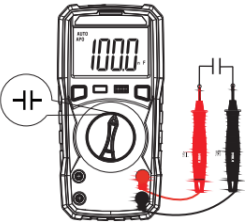

Figure 5
**(4).CAPACITANCE MEASUREMENT (Figure 5)**